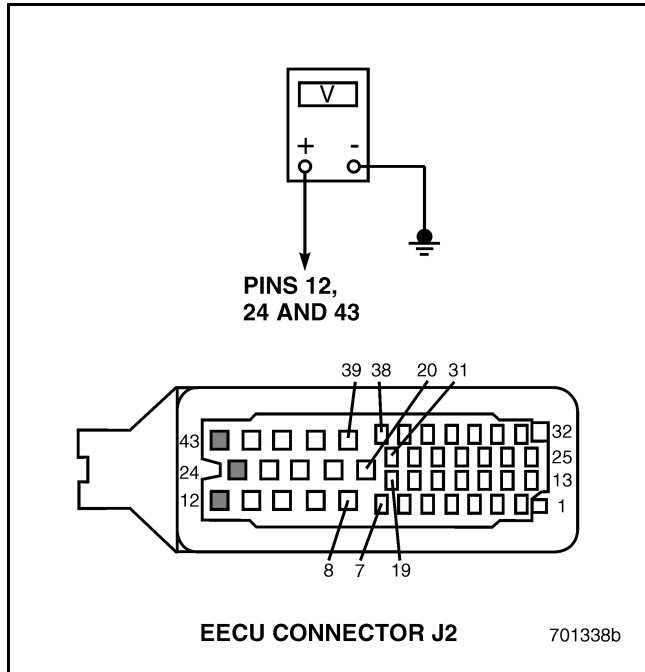

Figure 723
4. Measure the voltage between EECU connector J2 pins 12, 24 and 43 versus a good ground (see Figure 723).